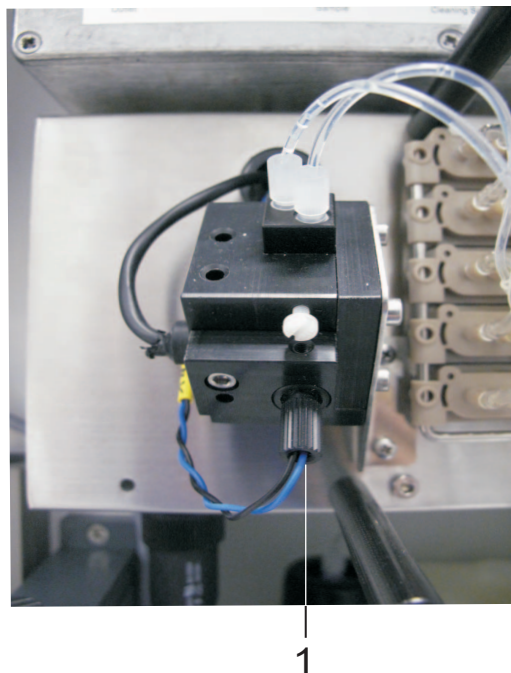

Fig. 5-25: Photometer unit during LED check
The blue measurement LED is at the bottom of the photometer unit inside the LED holder collecting the black and blue connection cables for the measurement LED (see section Fig. 5-25: Photometer unit during LED check,  101). After the *LED Check* function was started, the measurement LED lights up and goes out 5 times for approx. 2 seconds each.
- 4 From below look up into the LED holder collecting the black and blue connection cables for the measurement LED (see section Fig. 5-25: Photometer unit during LED check, 101). The blue measurement LED is inside the LED holder. Watch the LED.